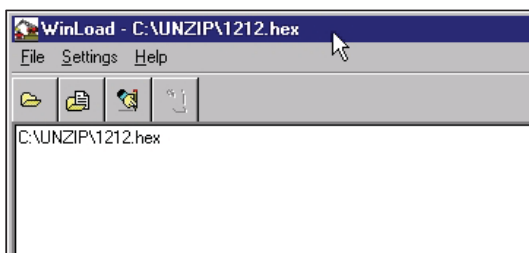

Figure 13: Open File in WinLoad
Once you have selected your file, the name should appear in the main display area and in the title bar, see *Figure 13* below.
3. Make sure the file path and file name are displayed in main display area, see *Figure 13, Open File in WinLoad* on page 56.